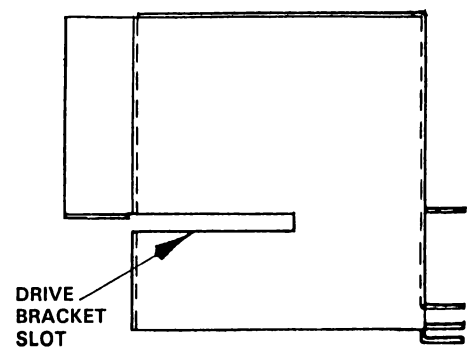

Fig. 3-6. Top RFI Shield Side View
3.2.4 Lift the drive bracket enough to allow the slots in the TOP RFI SHIELD to slide onto the bracket. See Fig. 3-6.